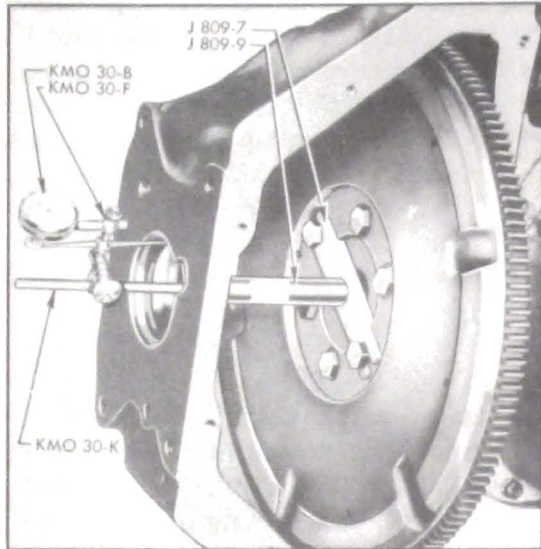

Figure 2-49—Checking Alignment of Flywheel Housing
2. Attach Strap J 808-7 and Pilot J 808-9 to flywheel with two flywheel bolts. Mount Dial Indicator KMO 30-B and Hole Attachment KMO 30-F on pilot with Sleeve KMO 30-K. Adjust ball end of hole attachment to bear against side of pilot hole in flywheel housing. See figure 2-49.